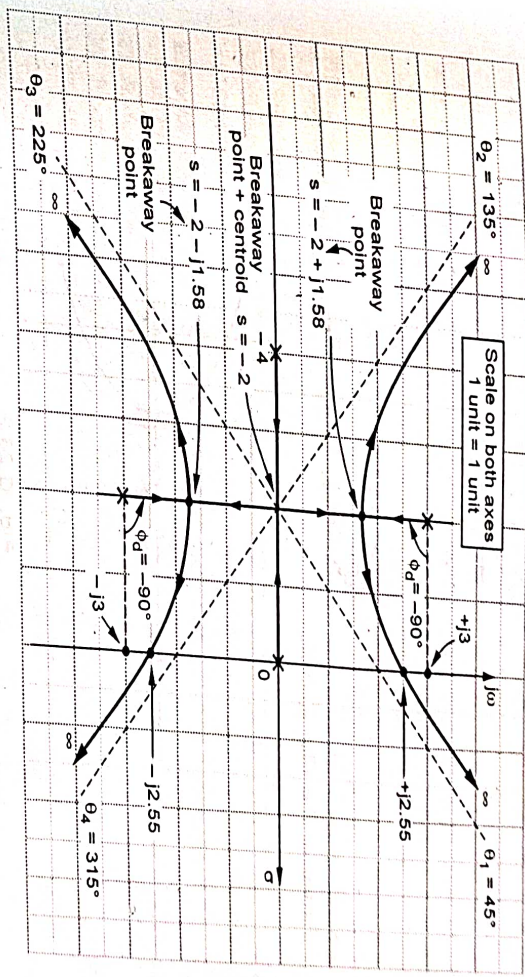

Fig. Q.25.1(c)
Step 8 : The complete root locus is shown in the Fig. Q.25.1(c).